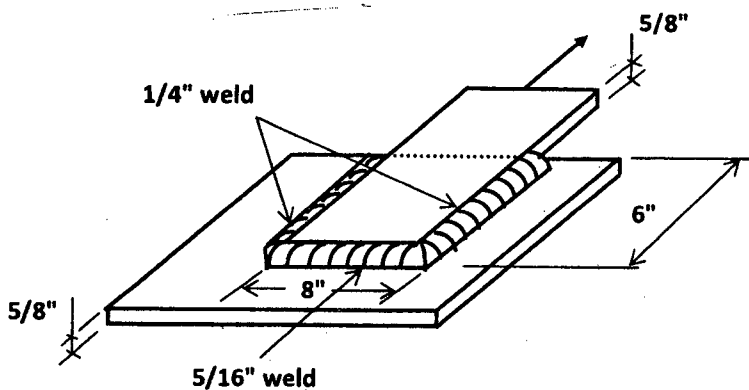

Fig. 10
8. (a) Two plates each 5/8-in. thick are lap welded as shown in Fig. 10. The transverse weld size is 5/16" and the longitudinal weld size is 1/4". Welds are deposited using E70XX electrodes. Plates are ASTM A992 ( $F_y = 50$  ksi,  $F_u = 65$  ksi). If the service dead load tension is 50 kips, what live load tension may be transmitted through the welded connection? Use AISC/LRFD method.